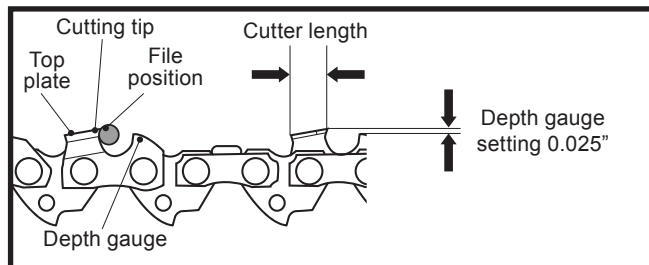

**Fig. 19**
9. Use a depth gauge measuring instrument to check the height of the depth gauge. Depth gauge measuring jigs are available from most reputable tool merchants (Fig. 19).